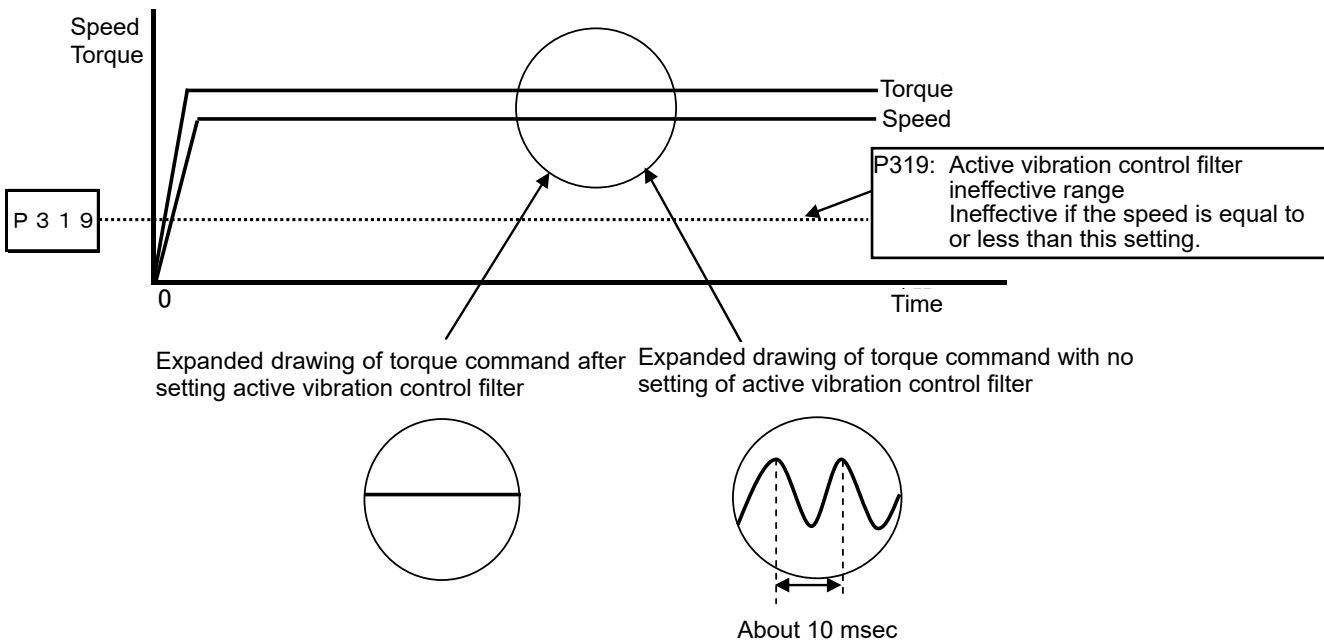

Figure 5-18 Active vibration control filter setting example in case of 100 [Hz] vibration occurrences
*12 Decision of filter value can be set based on torque/speed/deviation-waveform. Referring to Figure 5-18, set resonance frequency of one cycle to P317.